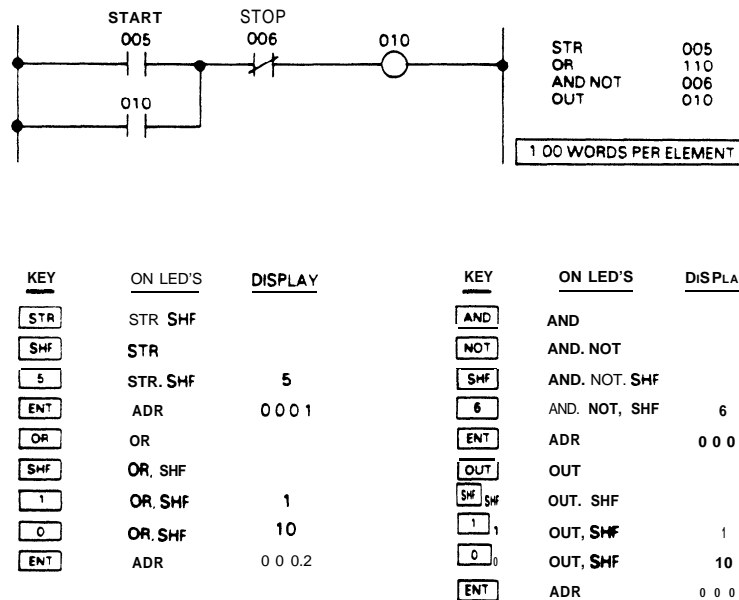
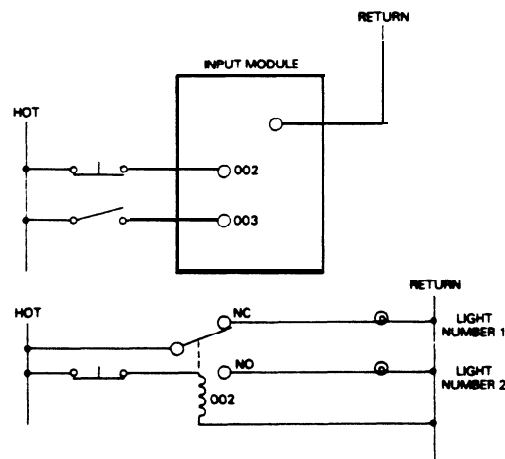

Figure 5-5. Sample Relay Logic (Motor Starter)
Figure 5-6. Example of Normally Closed Inputs
With this background on the basics of programming a Series One and Series One Plus PC, Figure 5.5 provides a simple example to illustrate relay ladder programming. The references used were selected for illustrative purposes and can be adjusted as necessary to meet your application needs. This is a simple motor starter and seal circuit. An input module is assumed to be installed next to the CPU (005 = start pushbutton input, and 006 = stop pushbutton). Adjacent to the input module is assumed to be an output module (010 = output to motor starter). The program does not care whether these input and output modules are 115 V ac or 24 V dc. The programmer keys to be depressed to enter this logic are also shown in the figure. The start key begins a new rung of logic; this example and most that follow assume an empty memory so the example begins at address 0000.
The first reference is entered (STR, SHF, 5, ENT) and a normally open contact is established since the NOT key was not depressed. Referring to Figure 5.5, the next function moving from the left (contact 005) to the right along the top line of the logic rung, is a parallel contact referenced as 010. Parallel logic is represented by the OR function, which is selected followed by the desired reference (10) and the Enter key to load the memory. Again moving to the right of the top line, the next contact is in series with the logic completed so far. Thus the ANTI key is selected (for series logic). Since this contact is normally closed, the NOT key is also selected followed by the reference 6 and the Enter key.
After completing the logic of Figure 5.5, several features of **programming** should be noticed. First, all elements of the program are entered directly into CMOS memory as the Enter (**ENT**) key is depressed. Thus, if power should be interrupted while a program is being entered or altered, it will be totally saved except possibly for the one element being worked on. Second, there is feedback on the programmer **for all** entries. Something happens (LED ON, display changes, error codes appear, etc) for each key selected. Third, the logic is set up for inputs that are **wired** normally open. If an input is wired normally closed, an adjustment must be made to the symbol (NO or NC) used for that input. Referring to Figure 5.6, inputs sense voltage at their field terminals. They can not detect if a voltage is from a normally open limit switch that is depressed or from a **normally** closed pushbutton that is not depressed. Cover up the two field devices wired to inputs 002 or 003. If you were the input module, and both applied voltage to the field terminals, could you tell which was wired normally closed and which normally open? Because of this, the programmer or system designer must compensate.
In a previous discussion, it was stated that inputs are like relays with many poles and you are selecting which type of pole is to be used when you program. In the lower half of Figure 5.6, coil 002 is shown in the de-energized position; however it is wired to a normally closed pushbutton. When you want power to flow if the pushbutton is **NOT** depressed, which contact type do you choose, NO or NC? The answer is normally open since coil 002 is always energized except when the pushbutton is **depressed**. **Therefore, in programming** with the Series One or Series One Plus PCs, a **normally** open contact is appropriate. If the stop button of Figure 5.6 **were wired normally closed, its internal logic** should be normally open to compensate. However, this concept does not normally cause problems for the programmer. **Since PCs are reprogrammable**, if an error is made and discovered when the system is exercised, it is easy to correct